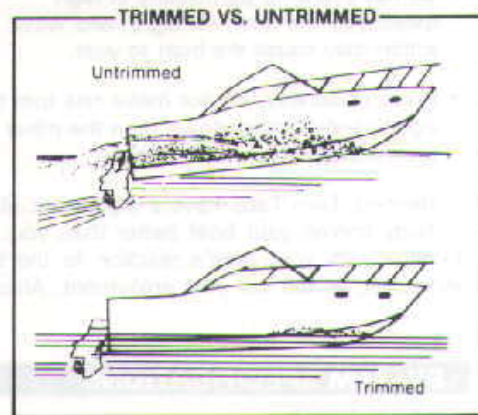

Figure 3
**Getting and staying trimmed**—Most boats "break over" (get on plane) at a particular speed. This speed is determined by weight distribution, water conditions, etc. Bennett Trim Tabs enable your boat to plane at speeds lower than natural planing speed. As the throttle is pushed, the stern squats and the bow rises. In short bursts, the helm control is pushed in the "BOW DOWN" position, moving both trim tabs. The boat reacts as the stern rises and the bow "breaks over", resulting in, among other things, increased visibility and speed (figure 3.) If overtrimming occurs as the boat gains speed, the trim tabs can be retracted by pressing "BOW UP". (When overtrimmed, the bow plows, reducing maneuverability.)